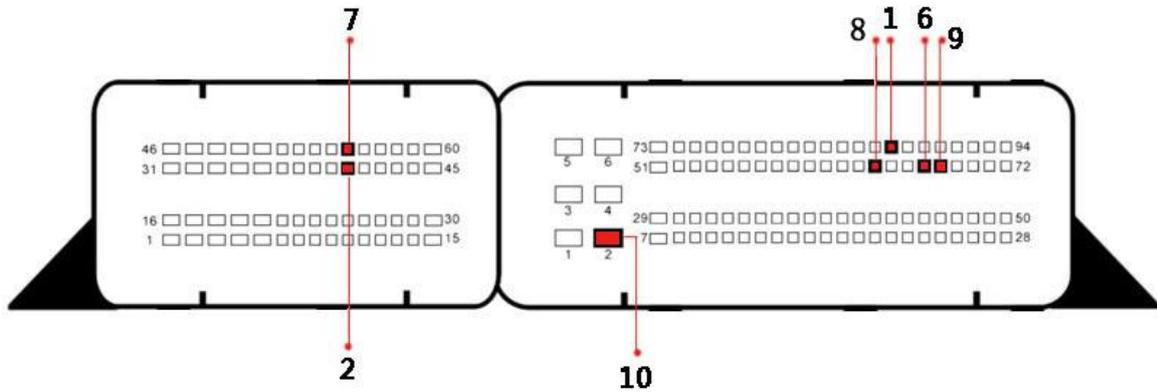

Figure 3
- Select **【View the wiring diagram】**, as shown in Figure 3, connect engine computer of the original car according to the wiring diagram (to improve the communication speed and stability, please use a USB cable to connect the Android device and the Bluetooth connector), and execute **【Connect】** function to test whether the connection is normal.